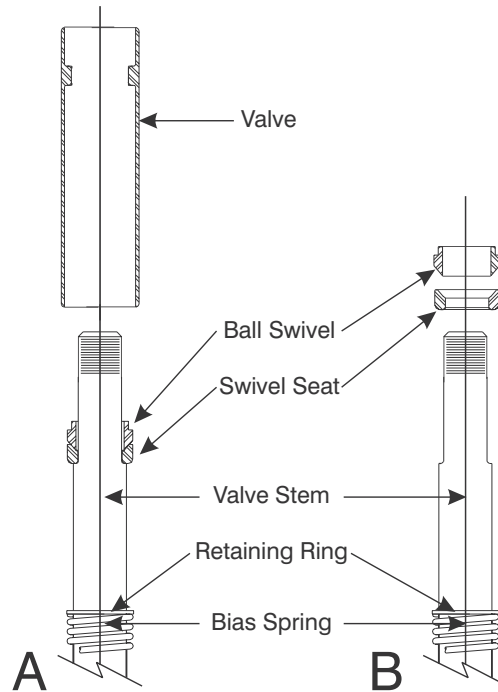

Figure 8-18. Remove the Valve, Lower Ball Swivel, and Seat from the Valve Stem.
5. Remove the Valve (7) from the Valve Stem (11) as shown in Figure 8-18-A.
6. Remove the Swivel Seat (5) and Ball Swivel (6) from Valve Stem (11) as shown in Figure 8-18-B.